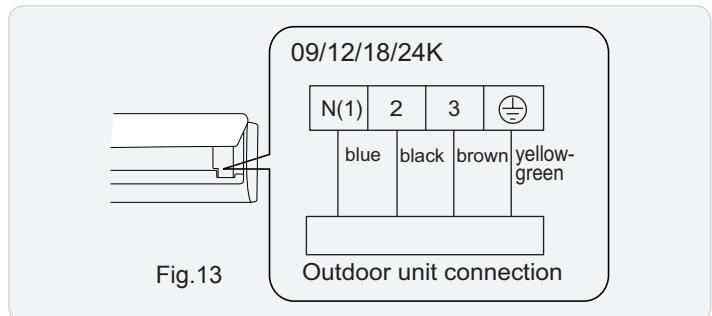

Fig.13
- (3) Remove the wire clip; connect the power connection wire/signal control wire (only for cooling and heating unit) to the wiring terminal according to the color; tighten the screw and then fix the power connection wire with wire clip.(As show in Fig.13)